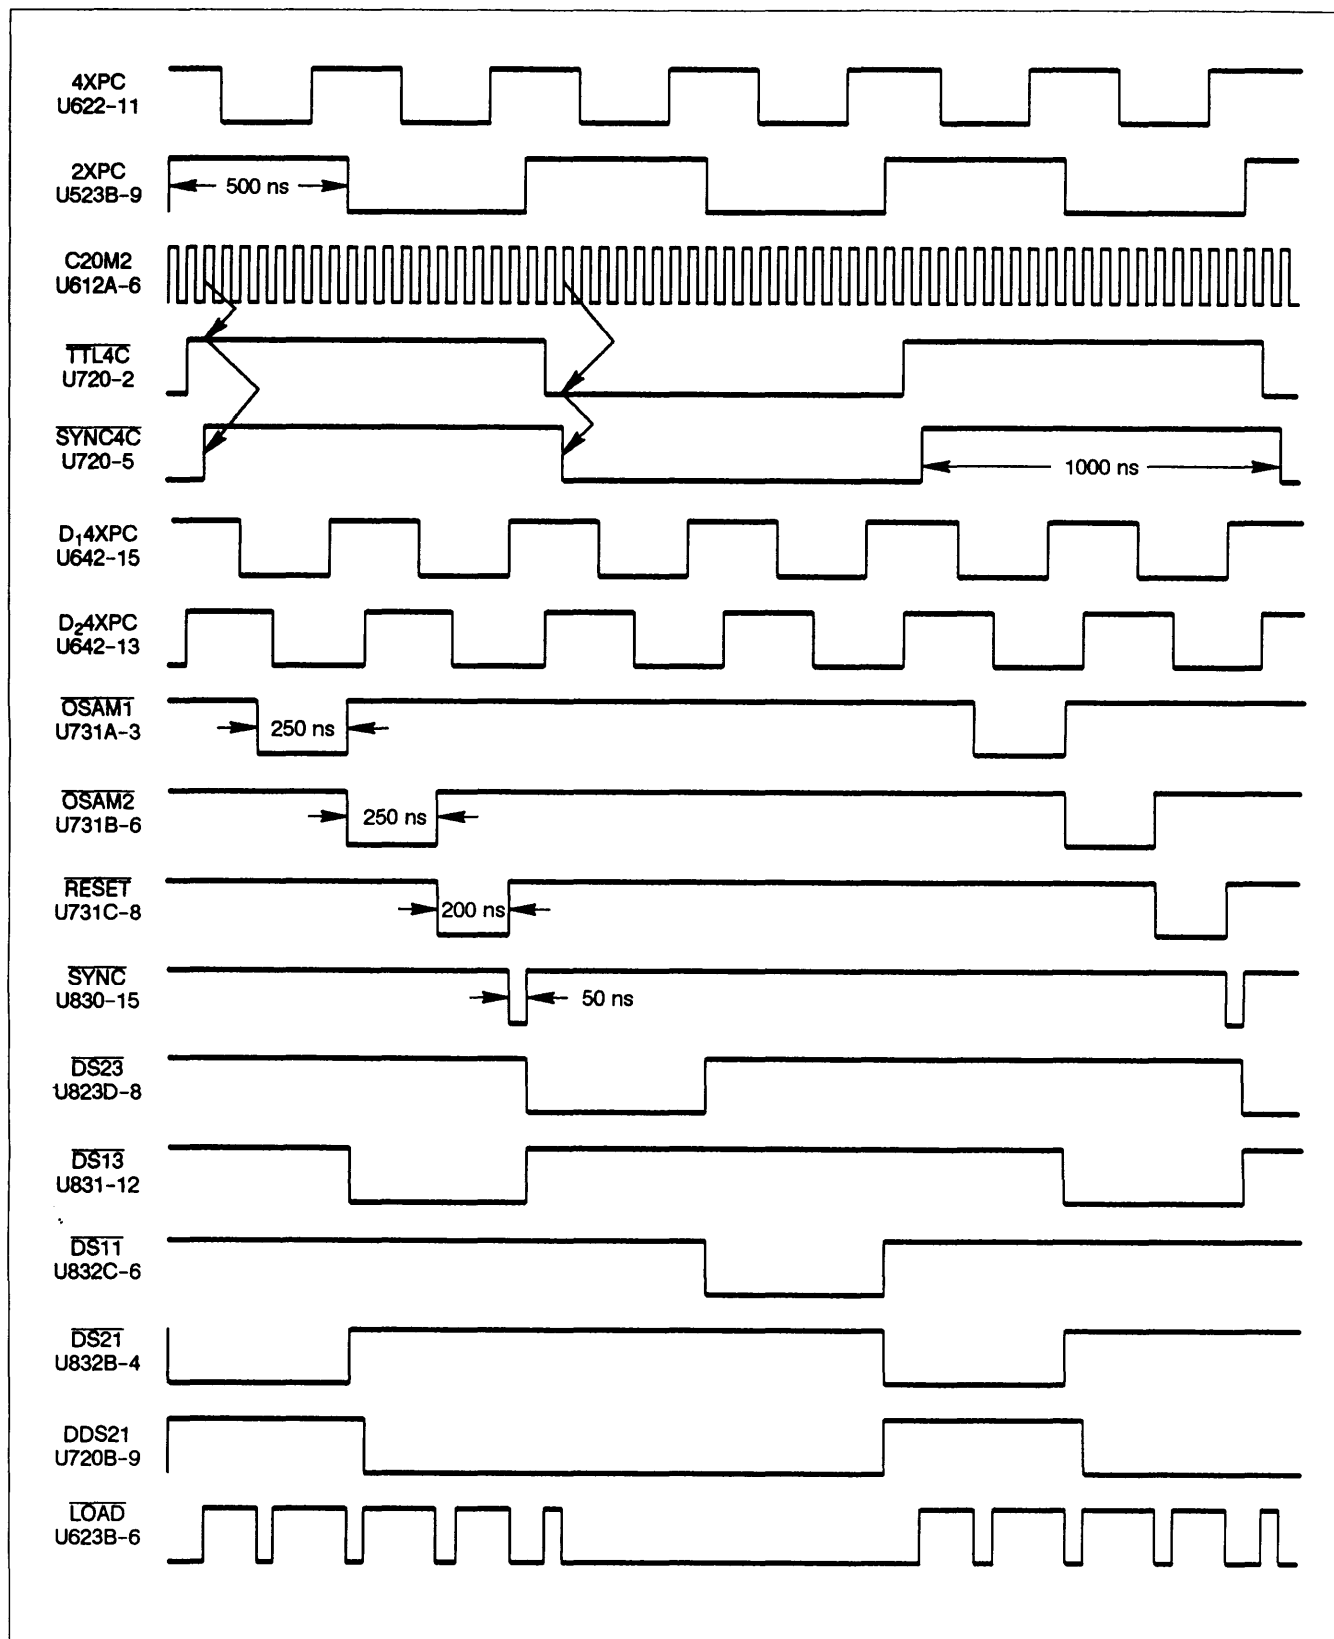

Figure 3-3. System Clock waveforms.
The CCD (charge-couple devices) Output-Sample Clocks stage controls signal transfers from the CH1 and CH2 CCD/Clock Drivers to the external CCD Output circuitry. It consists of a state machine synchronized to the 20 MHz clock (and thus the CCD events) and produces clocks to: (1) move sampled data out of the CH1 CCD/Clock Driver, (2) move sampled data out of the CH2 CCD/Clock Driver, (3) reset both the CH1 and CH2 CCD/Clock Driver output-charge wells in preparation for the next transfer, and (4) phase-lock the CCD-Data Clocks. Fig. 3-3 illustrates the timing of these clocks and other clocks in the System Clocks circuitry; it may be of use in following the discussion of circuit operation.
The CCD Data Clocks $\overline{\text{DS11}}$, $\overline{\text{DS13}}$, $\overline{\text{DS21}}$, and $\overline{\text{DS23}}$, generated by counter U721, shift register U831, and the associated logic gating, are responsible for multiplexing the four CCD/Clock Driver output levels (CH 1 CCD01, CH 1 CCD03, CH 2 CCD01, and CH 2 CCD03) onto the CCD DATA line for digitization by the A/D Converter. Figure 3-3 (shown previously) illustrates timing of the stage.